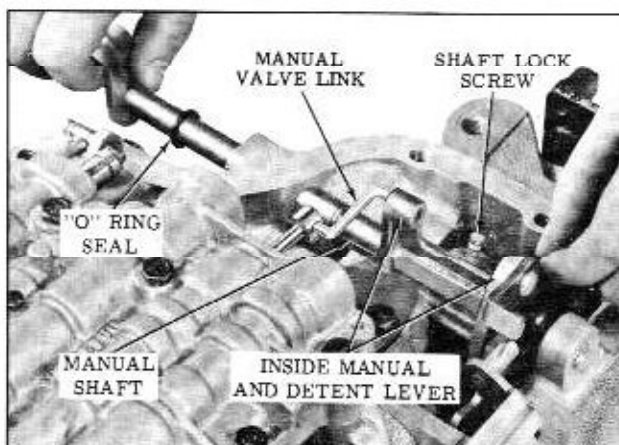

Fig. 3-29 Removing Manual Valve Link
12. Slide manual shaft out of retainer to remove valve link. (Fig.3-29)